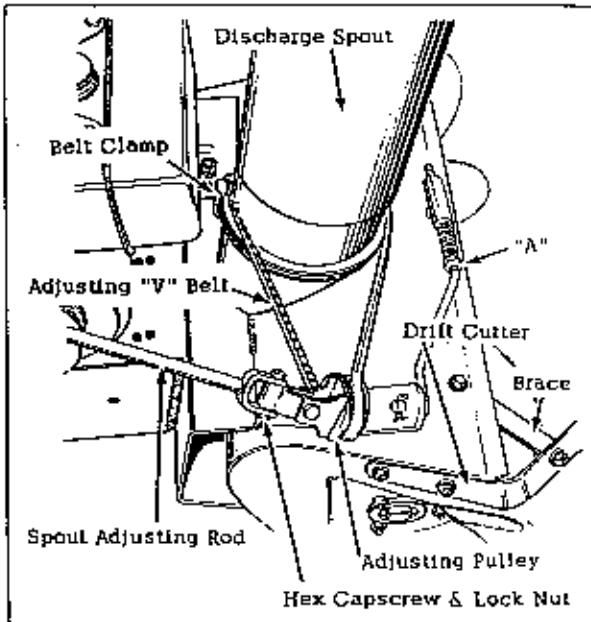

Fig. 4
- Apply a coating of lightoil to the neck of the discharge spout mounting collar, and install the spout in place on the rotor housing as shown in Figure 4. The application of oil is necessary to prevent rust and to allow the spout to rotate freely.
Clamp the "V" belt around the spout as shown in Figure 4, and loop the belt around the adjusting pulley. Connect the lower end of the spout adjusting handle to the adjusting pulley as shown in Figure 4, using a hex capscrew and lock nut. Adjust the tension of the "V" belt by turning the hex nut at point "A" in Figure 4. Avoid excessive tension.
The 26" Sno Away has as standard equipment, drift cutters which are to be attached to the blower housing. The righthand and the left hand cutter are identified on page 8, and are attached to the housing with capscrews provided, as shown in Figure 4. The braces are then bolted between the cutters and the housing.